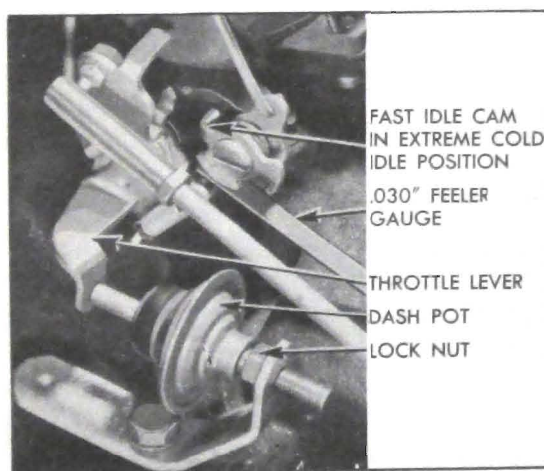

Figure 3-9—Dash Pot Adjustment
1. Rotate fast idle cam to extreme COLD idle (choke closed) position and hold the throttle lever closed against a .030" feeler gauge placed between the stop screw and the highest step of fast idle cam. See figure 3-9.